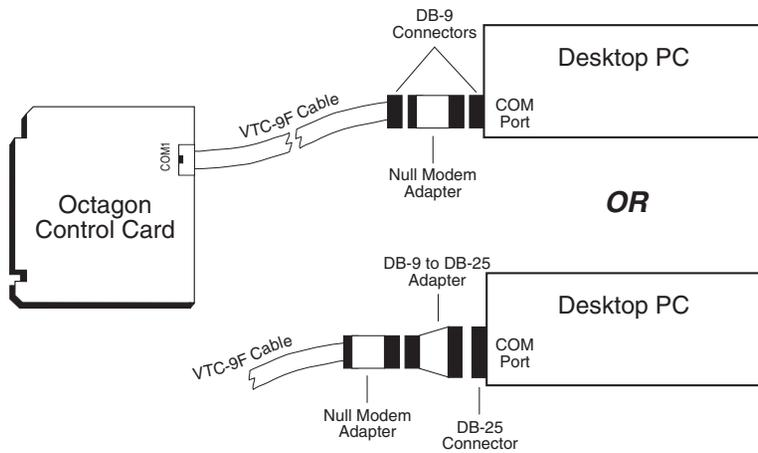

Figure 2-4 – Serial Communications Setup
6. If your PC has a 9-pin serial connector, connect the null modem adapter to any serial port (COM1 – COM4) on your PC. If your PC has a 25-pin serial connector, attach a 9- to 25-pin adapter to your null modem adapter, then insert the matching end of the 9- to 25-pin adapter into the serial port. See Figure 2-4.
4. If your PC has a 9-pin serial connector, connect the null modem adapter to any serial port (COM1 – COM4) on your PC. If your PC has a 25-pin serial connector, attach a 9-to 25-pin adapter to your null modem adapter, then insert the matching end of the 9- to 25-pin adapter into the serial port. See Figure 2-4.
5. If your PC has a 9-pin serial connector, connect the null modem adapter to any serial port (COM1 – COM4) on your PC. If your PC has a 25-pin serial connector, attach a 9- to 25-pin adapter to your null modem adapter, then insert the matching end of the 9- to 25-pin adapter into the serial port. See Figure 2-4.